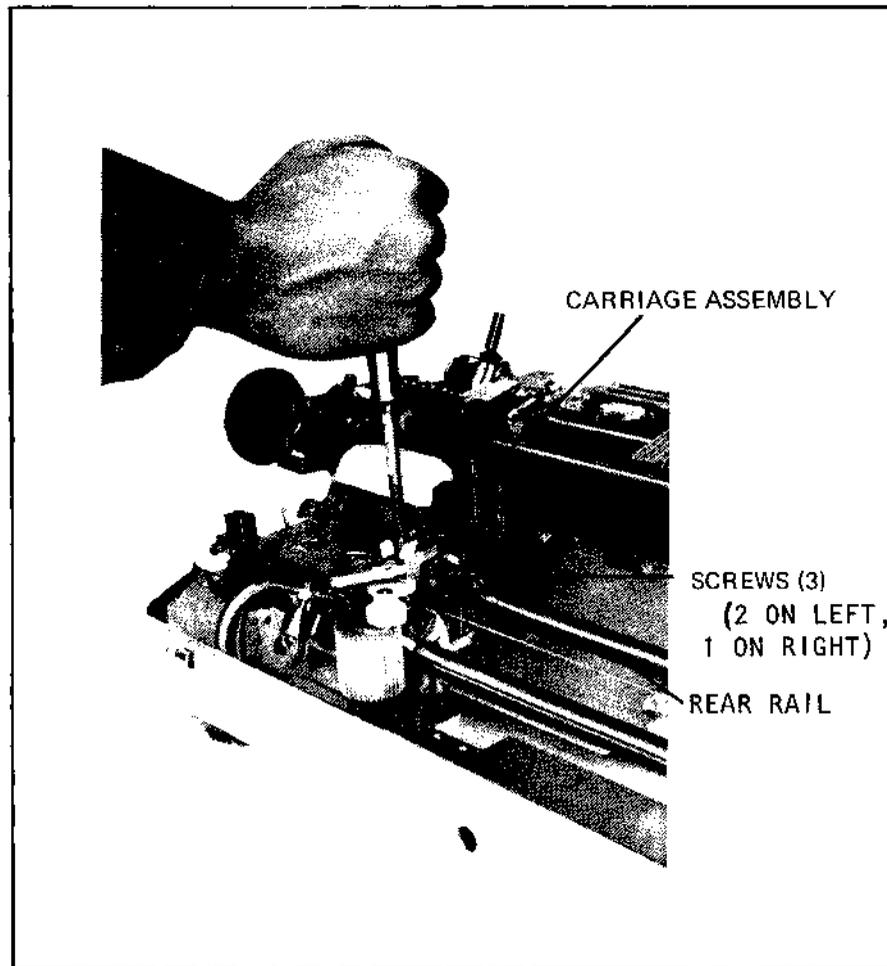

Figure 4-13 Carriage Removal
- g. Remove three screws securing the carriage to the lower guide assembly (Figure 4-13).
Ensure rear bearing sits on rear rail illustrated in Figure 4-13.
- d. Secure the carriage to the lower guide assembly with three screws (Figure 4-13).